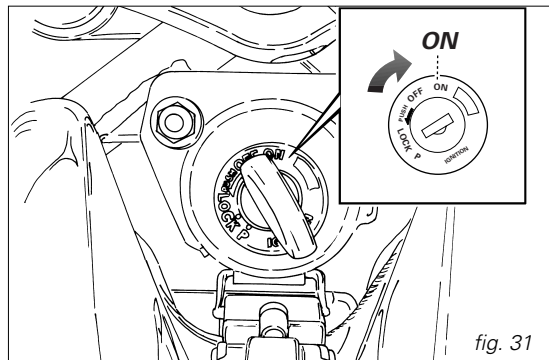

fig. 31
1) Move the ignition key to **ON** (fig. 31). Make sure both the green light **N** and the red light  on the instrument panel come on.